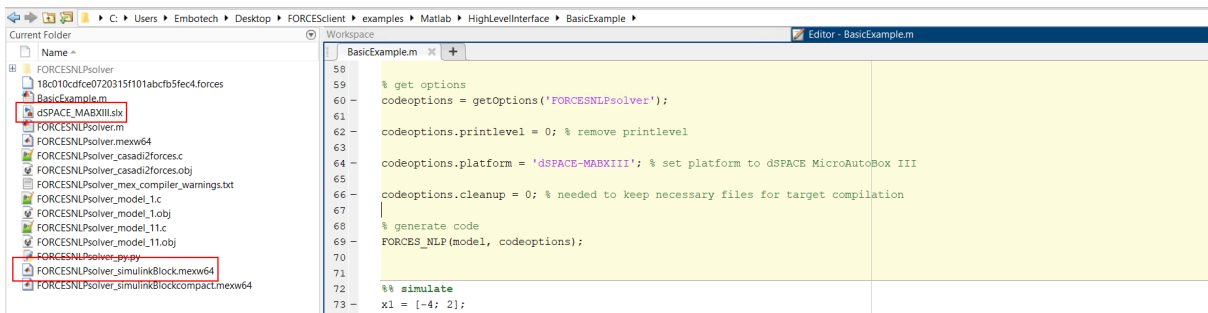

Figure 12.61: The .<mex_extension> solver file is in the same path as the model.
- 5) The `FORCESNLPsolver_simulinkBlock.<mex_extension>` file (created during code generation) needs to be in the same path as your model (see Figure 12.61).